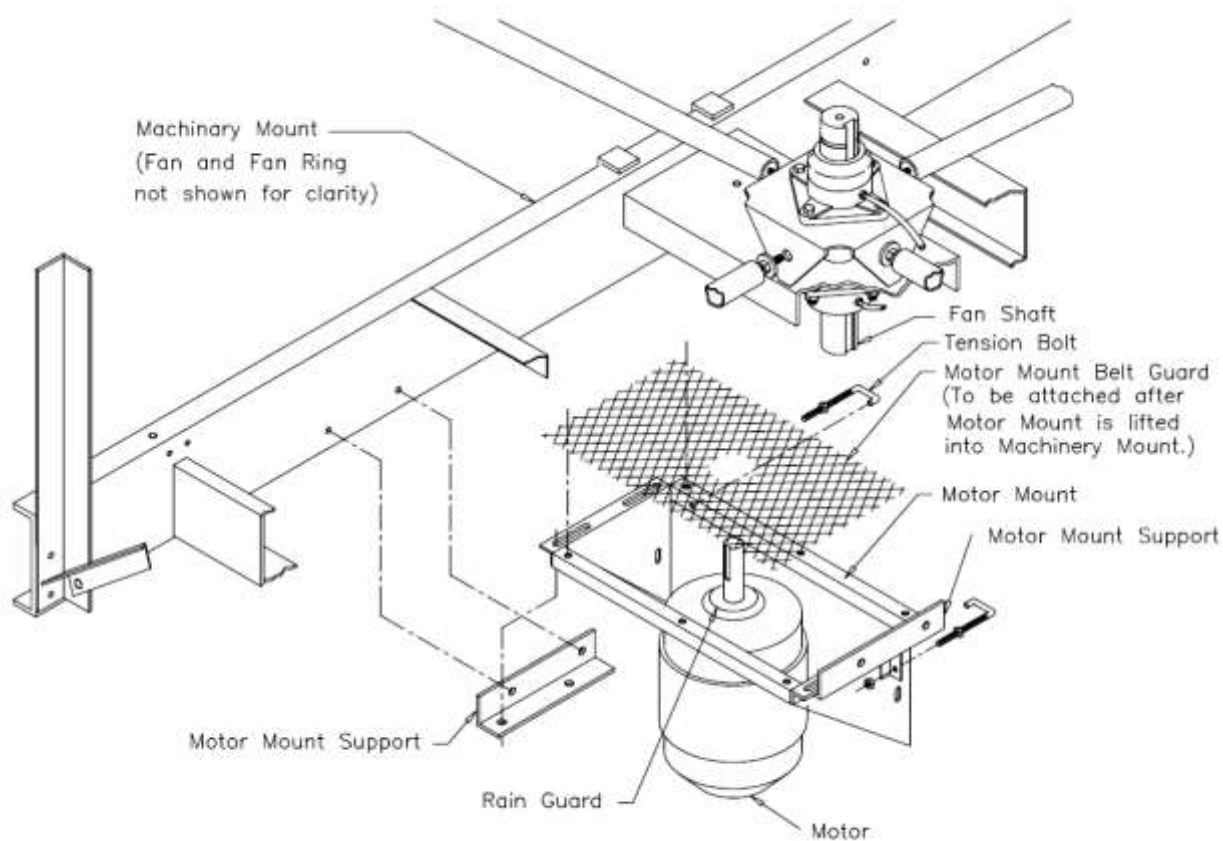

FIG.E1-MOTOR MOUNT
1. Attach motor to motor mount. Attach motor mount assembly to machinery mount. Attach motor mount belt guard to motor mount. See Fig. E1 and "INSTALLATION & MAINTENANCE INSTRUCTIONS FOR MOTOR (APPENDIX C)